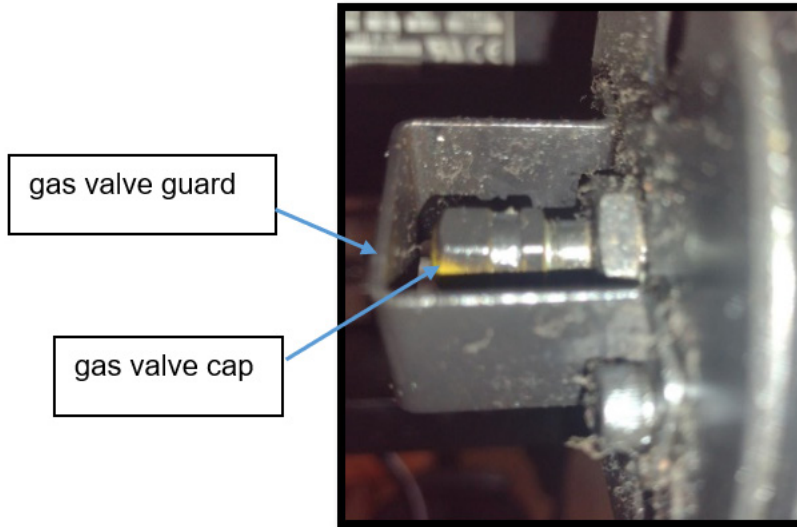

Figure 2
2. Locate and remove the gas valve guard and gas valve cap. See Figure 2 below.